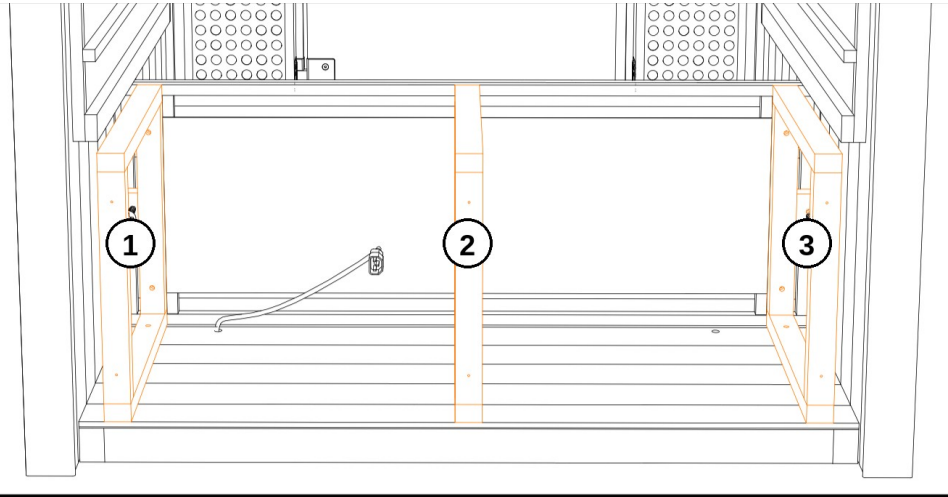

Figure 11. The three Calf Panel Supports in position: 1 left, 2 center, 3 right, as you face the front of the sauna.
- Identify the three square supports (Figure 11). The left support (1) and the right support (3) have wooden blocks attached to one side; the center support (2) has none and sits in the cutout notch in the floor trim.